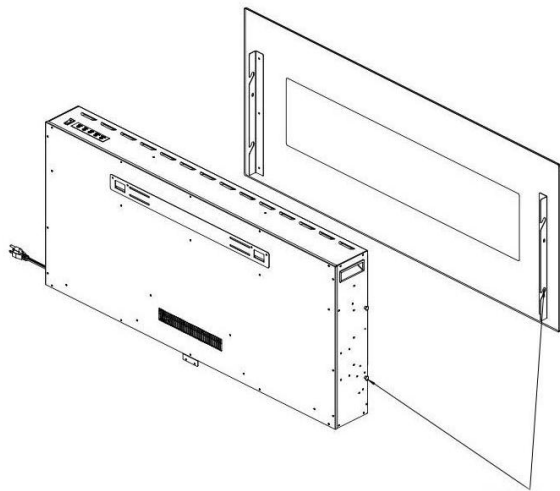

Fig.4
- Place the front glass surround over the front of the fire aligning the slots in the bracket at each side of the glass panel with the lugs on the sides of the fire; See Fig.4